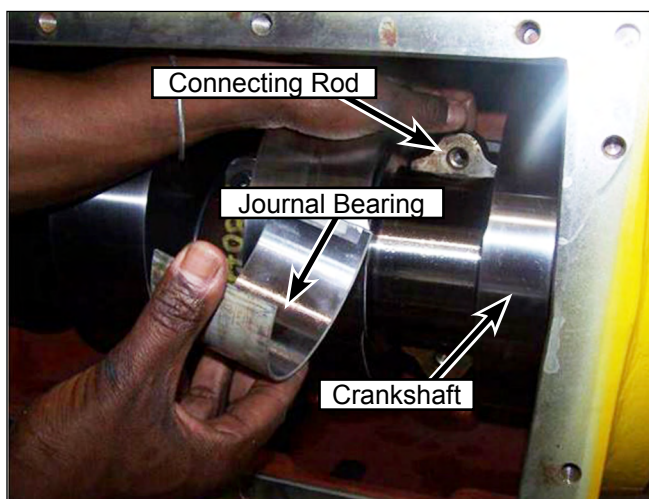

Figure 117: Push the Bearing Away from the Crankshaft.
8. To access the inner journal bearing (Figure 117), push the connecting rod away from the crankshaft. Slide the bearing from the rod.